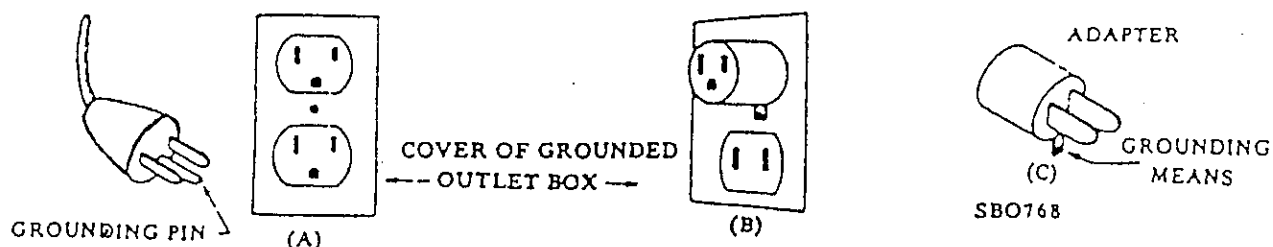

FIGURE 1 GROUNDING METHODS
7. This tool is intended for use on a circuit that has an outlet that looks like the one illustrated in Sketch A in Figure 1. The tool has a grounding plug that looks like the plug illustrated in Sketch A in Figure 1. A temporary adapter, which looks like the adapter illustrated in Sketches B and C, may be used to connect this plug to a 2-pole receptacle as shown in Sketch B if a properly grounded outlet is not available. The temporary adapter should be used only until a properly grounded outlet can be installed by a qualified electrician. The green coloured rigid ear, lug, etc., extending from the adapter must be connected to a permanent ground such as a properly grounded outlet box.